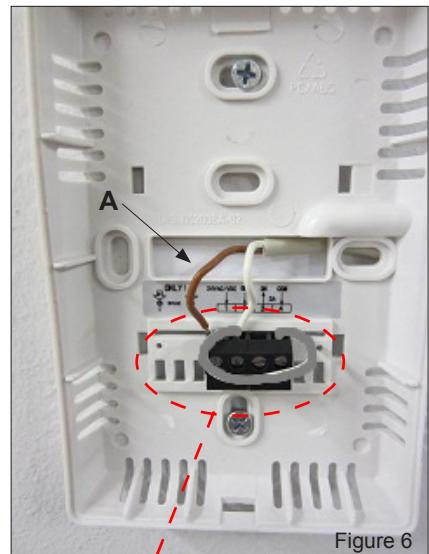

Figure 6
- Insert the end of the power supply cable through the slot in the groove (A) on the alarm unit back piece, see Figure 6.